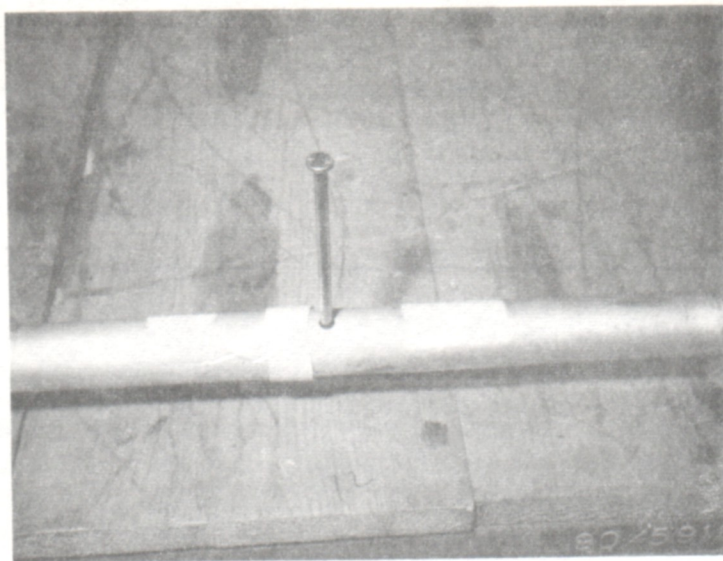

FIG. 1
1. Place the front wheels in the straight ahead position and lock in this position by inserting a peg in the center of the steering rack tube in the hole provided. (See Fig. 1).